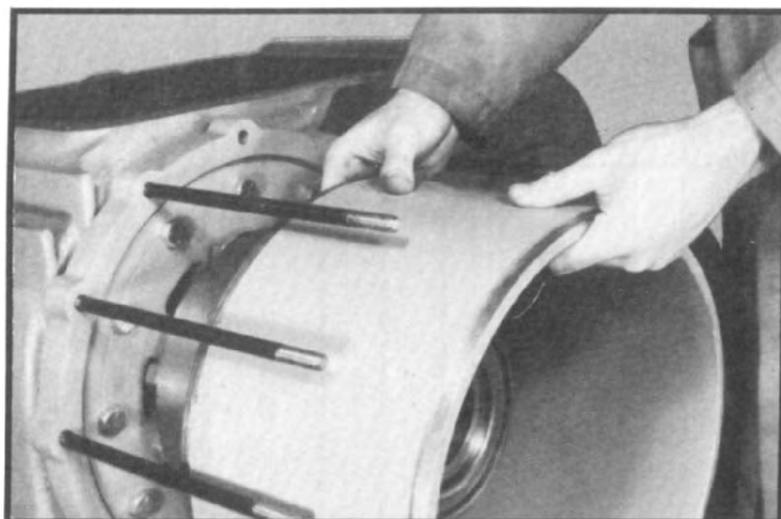

Fig. 46
2.9 Tap differential housing to loosen and remove. (See fig. 46.)